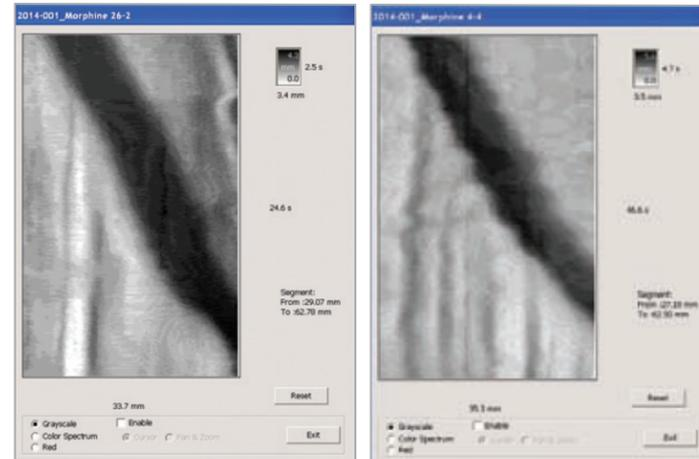

Figure 2
- Generate spatio-temporal maps using the motor analysis screen. The maps can be saved and analyzed using the included "Image J" plugin (figure 2)